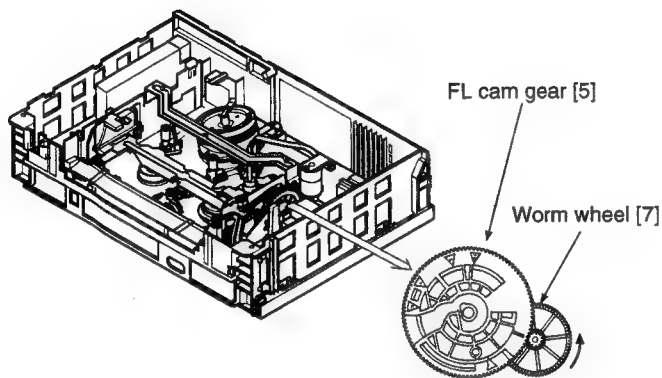

Fig. 2-4-5
1. Remove the worm gear holder and the worm gear, and turn the worm wheel to unloading direction shown in Fig. 2-4-5 with a screw driver etc. (Refer to Item 2-6-7).